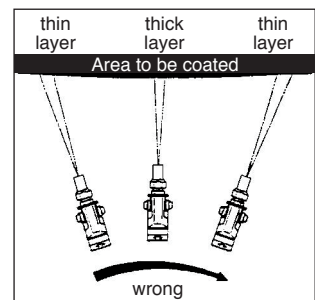

Fig. 83: Do not wave!
- Ensure an even speed and move the spray gun parallel to the area to be coated. Waving the spray gun causes irregular coating (see Fig. 83).